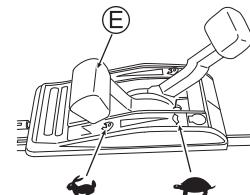

Fig. 14
- Confirm that there is no person behind you when pulling the starter knob (V).
- Securely hold the starter knob (V) when you pull it.
- Return the starter knob (V) slowly.
5. Warm up the machine before use. After the engine has warmed up, start mowing by setting the throttle lever (E) to "↖". (See Fig. 14)